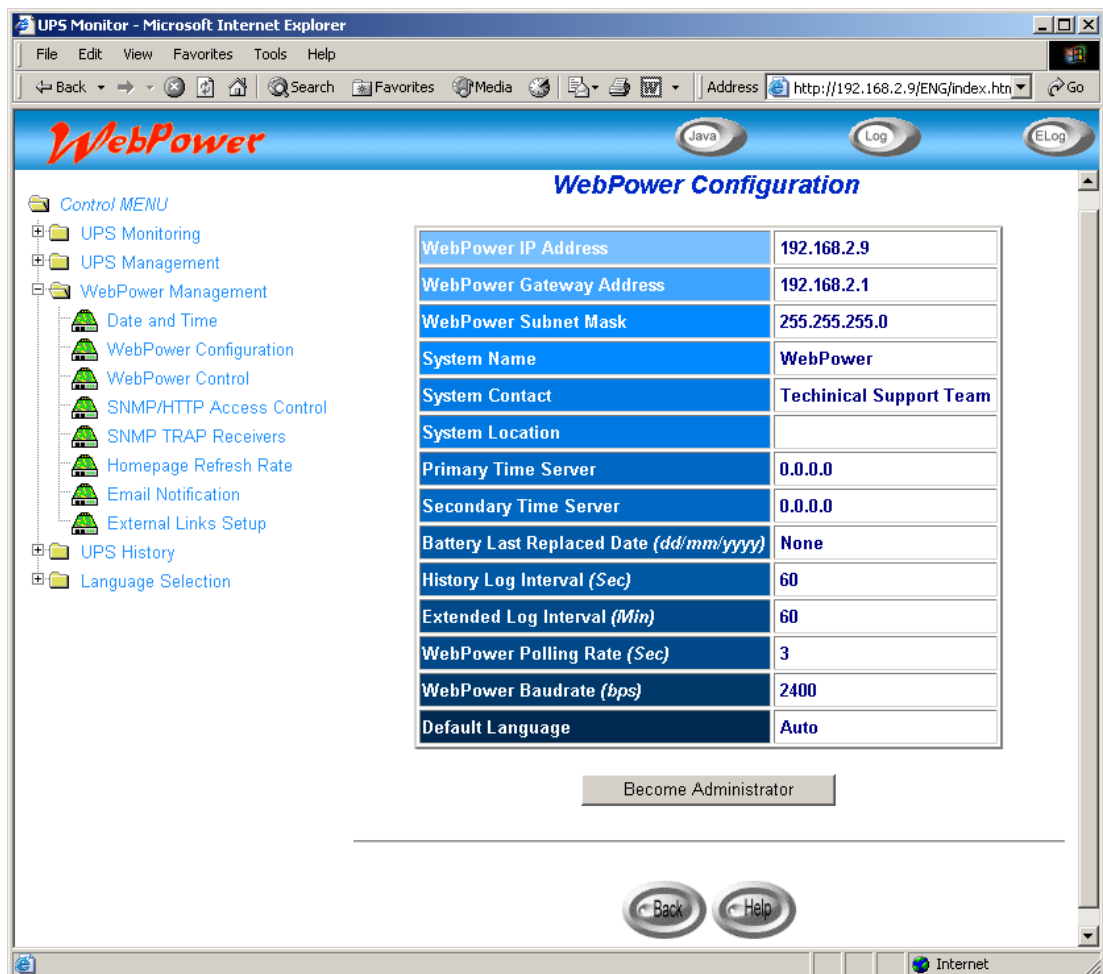

Figure 11 WEBPOWER initial configuration page screen.
1. Select *WEBPOWER Configuration* from the *WEBPOWER Management* of the main menu to setup the network configuration parameters (Figure 11).